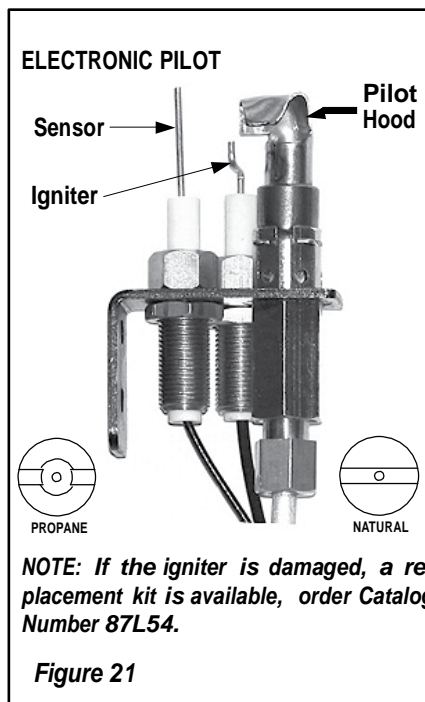

Figure 21
Step 5. See **Figure 21** and replace the pilot orifice as follows: Remove pilot hood assembly by grasping the hood and pulling the assembly straight up. Under the hood is the pilot orifice. With caution and using a magnetic screwdriver, undo the pilot orifice and remove it from the assembly. Carefully replace the orifice with the one provided with the kit. Press the pilot hood back over the assembly. The orientation should be aligned as shown in **Figure 21**. **Exercise extreme care to prevent damage to or breakage of the igniter assembly.**
NOTE: Propane pilot orifices are identified with a countersink in the head. Natural gas orifices do not have this countersink. See **Figure 21**.